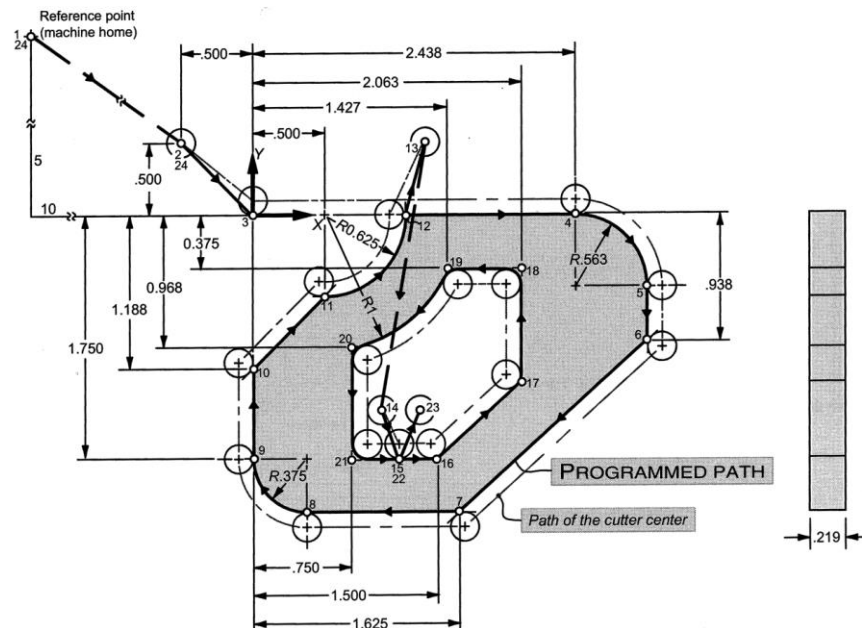

Figure 1
- 1) The scanned/digitized handwritten part of your assignment solution (*i.e.* filled in Table 1, please see below). This should also include detailed trigonometric calculations for all profile locations requiring their use, such as points 10, 6, 7, etc. (Figure 1).
to machine the part shown in Figure 1. Assume that all dimensions in inches and all unspecified part radii are equal to tool radius (0.25 inches).
- a) Set X0 and Y0 at upper left hand corner and Z0 at the top of the part (as shown in Figure 1, above).